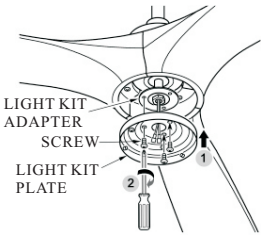

FIG.13
- 2. Gently pull the wire through light kit plate. Align the three holes on light kit plate with light kit adapter. Then, tighten back the screws removed previously.(See fig.13)